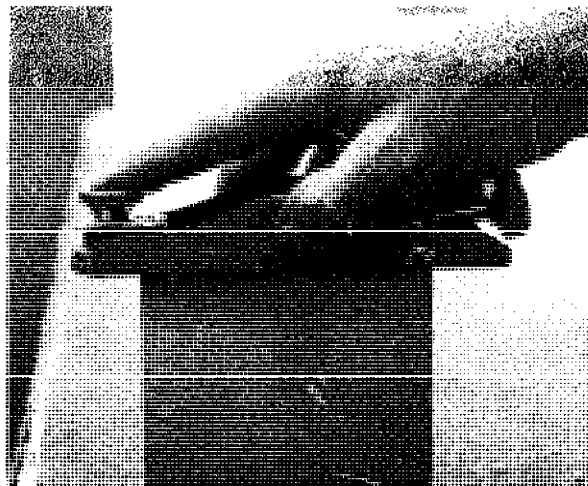

Fig. 8-49 How to hold a block plane.
1. First rest the palm of the hand to be used on the uppermost part of the plane. Then grasp the sides of the plane between the thumb and second finger, with the index finger resting in the hollow of the front edge. See figure 8-49.